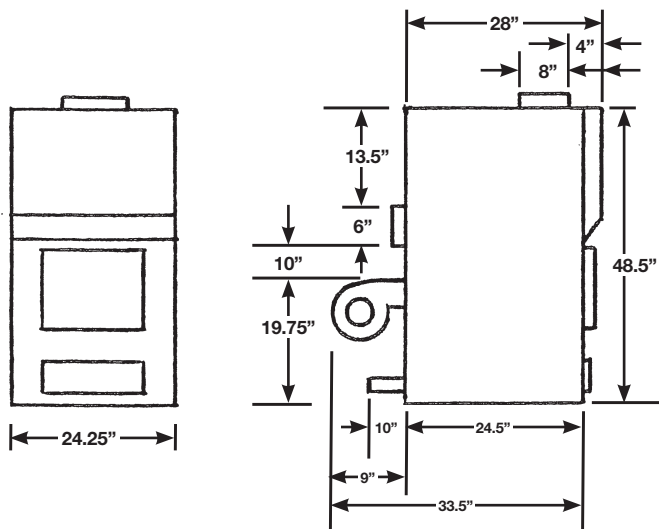

Figure 1
3. The unit must be set on a non-combustible surface, such as brick, ceramic tile, stone, or concrete and be at least 1 inch in thickness and 18 inches larger than the dimensions of the base as stated in the specifications, Figure 1. The non-combustible floor protection must extend **at least 16 inches in front of the unit.**